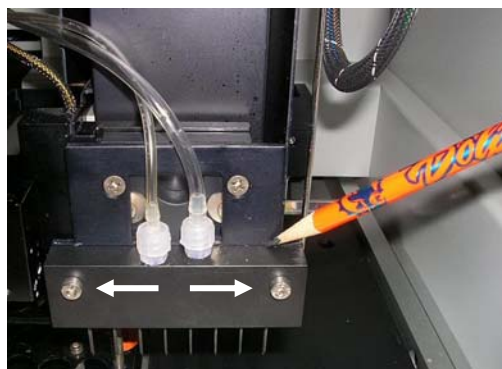

Figure 1
4. With a pencil, draw a line across the top of the manifold so that the replacement can be correctly oriented (as shown in Figure 1).
5. Using the #3 Allen wrench, remove the two screws securing the manifold to the mounting plate (as shown with white arrows in Figure 1).